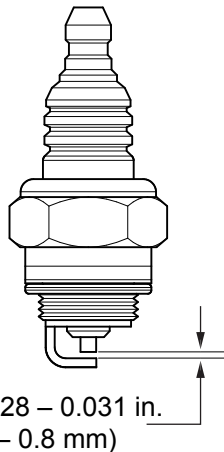

Figure 16. Spark Plug Gap
3. Remove and clean the spark plug (Figure 16). Adjust the spark plug gap to 0.028–0.031 inch (0.7–0.8 mm).